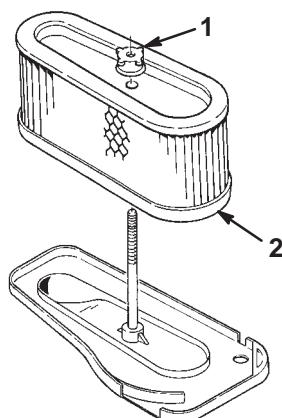

Figure 20
5. Unscrew the rubber nut and remove the paper element (Fig. 20).
2. Slide the air cleaner assembly onto the long rod. Screw the rubber nut finger-tight against the air cleaner (Fig. 20).